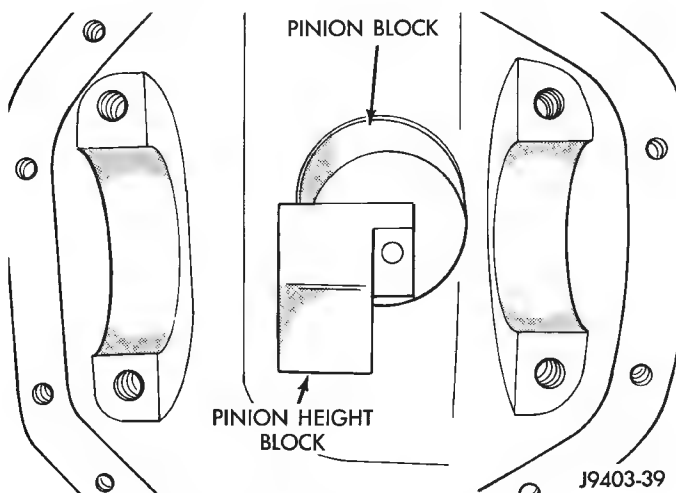

Fig. 47 Pinion Height Block
(3) Assemble Pinion Gauge Set, Pinion Block and pinion bearings. Install assembly into differential pinion gear bore and hand tighten cone (Fig. 47).